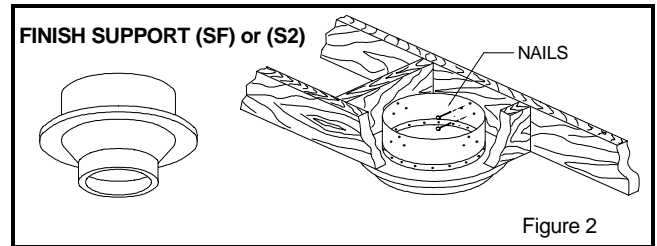

Figure 2
- 2 From below push the finish support into the framed hole. Nail the support to the framed box using (12) - 3" spiral nails (see Fig. 2)